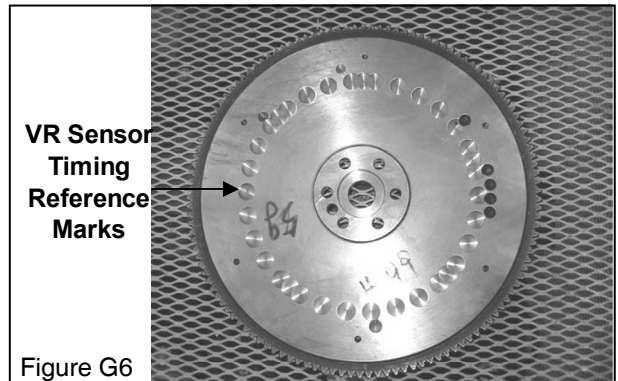

Figure G6
- After you have completed setting the distributor alignment you will need to adjust the VR sensor used by the SECM for speed reference. This sensor is mounted in the bell housing of the flywheel at the bottom of the engine. Circular timing reference marks have been precisely machined into the surface of the flywheel (Figure G6). The MI-04 VR sensor will use these machined marks for speed reference